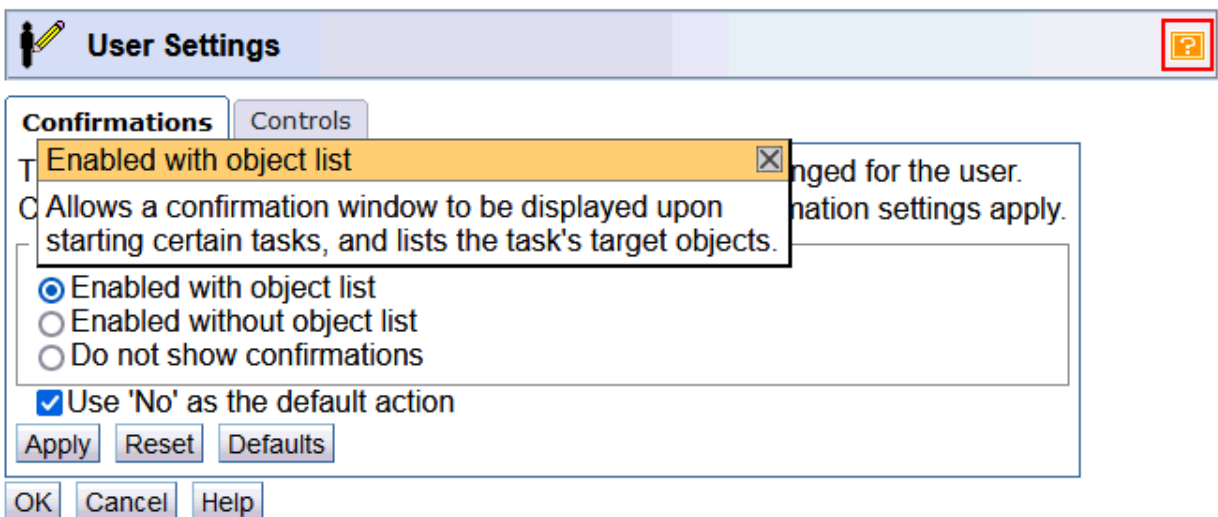

Figure 4. Context sensitive help enabled
2. Once context sensitive help is enabled the **i** in the upper right corner of the task window changes to an orange **?**. As you place your cursor over the input fields or selectable fields the abbreviated help text is displayed in a small box within the task window (see Figure 4 on page 12). Using the Tab key also allows you to view the help for each field. As you tab to each field, context sensitive help is displayed.